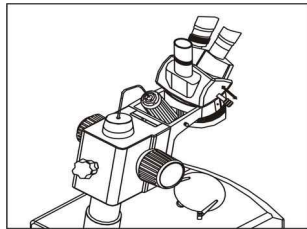

Fig. 7
1) You can alternate the binocular and video capture by pushing or pulling “the pole”. You can attain binocular observation by pushing “the pole” inside, or attain video capture by pulling it outside. (Fig. 7)